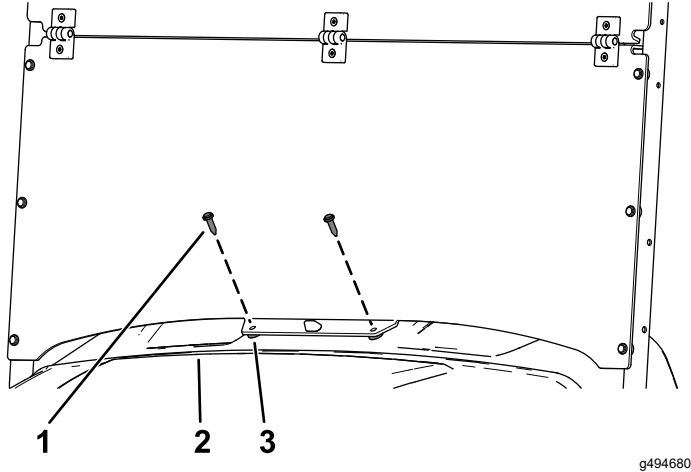

Figure 5
5. Secure the bottom of the lower portion of the windshield to the dash using 2 plastic spacers and 2 long plastic rivets (Figure 5).